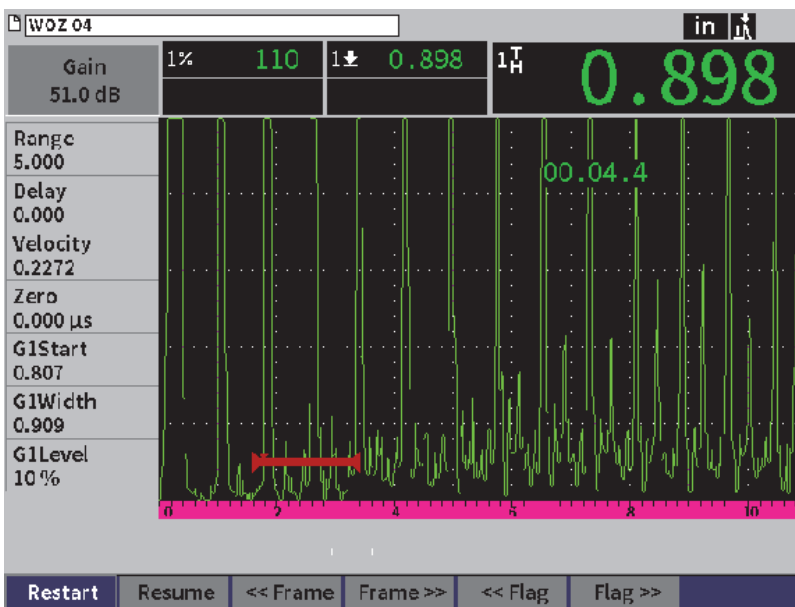

Figure 9-32 Video review setup page
3. Press the Enter key to display the reviewing page (see Figure 9-32 on page 160).